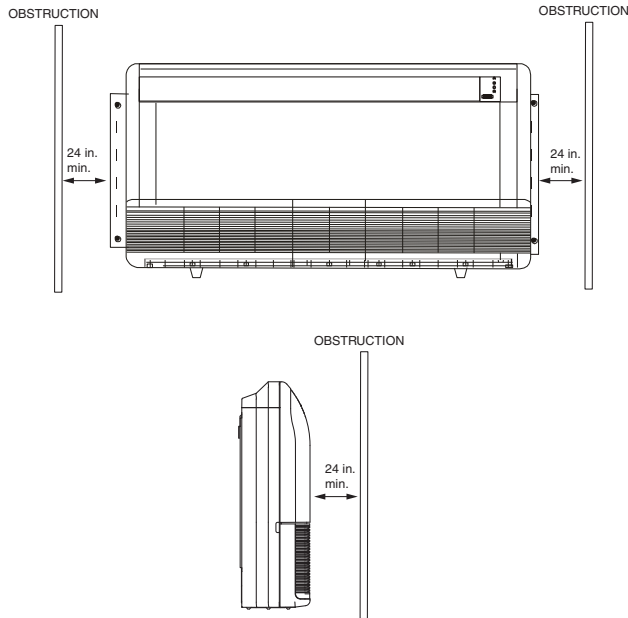

Fig. 5 — Distance from Wall or Obstruction
- The unit should be at least 24 in. from a wall or similar obstruction. See Fig. 5.